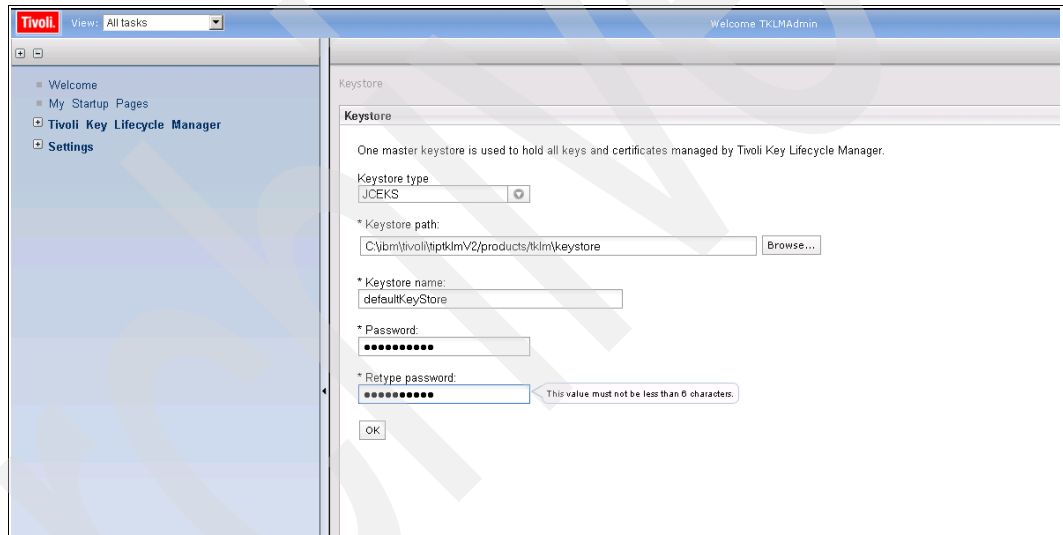

Figure 6-23 TKLM\_v2\_Keystore
23. A Keystore configuration panel is displayed (Figure 6-23). Fill in the required fields and click **OK**.